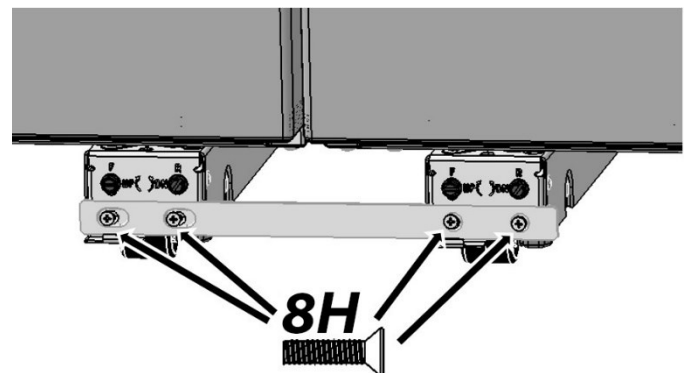

Figure 10
6. Having the refrigerator/freezer standing side by side 0.5" apart, fasten a 9H bracket to the front of the Levelers as shown in Figure 10, keeping the left-side 8H screws loose.
- c. Fasten the four 8H screws (Figure 10 and 11) through two front and back 9H brackets. Several adjustments may be needed for the center trim to be consistently flush and centered to the units.